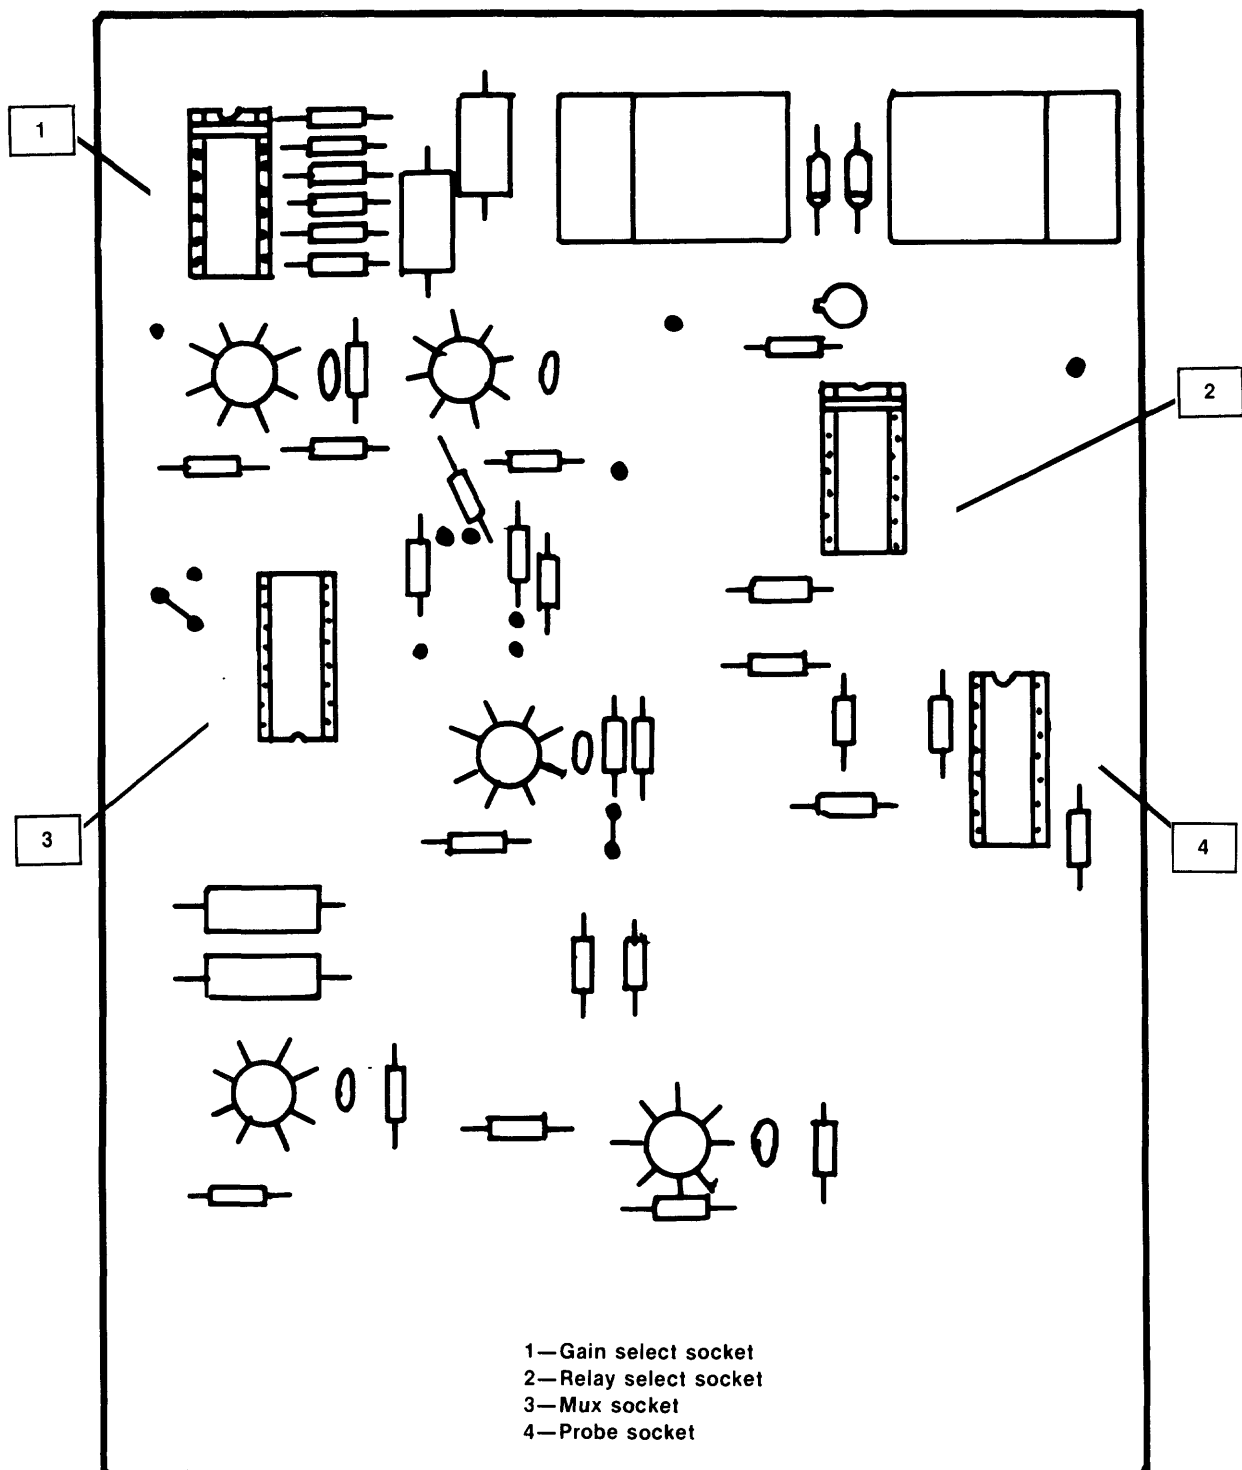

Figure 15.--Voltage signal conditioner.
A voltage SIGNAL CONDITIONER (fig. 15) has been designed by the HIF to allow the Minimonitor to accept voltage and, in some cases, current signals from other instruments. The voltage SIGNAL CONDITIONER has a selectable gain, which is applied to the input signals. Settings of the gain and the SPAN and ZERO pots on the Minimonitor cover determine the voltage levels passed to the data recorder or DCP. In addition, the voltage SIGNAL CONDITIONER has relays available to provide electrical power from the Minimonitor, or other sources, to other instruments. The relays normally are activated when the Minimonitor control/turn-on line is turned on or when the AUTO-MANUAL switch is switched to MANUAL.
- Voltage SIGNAL CONDITIONER (fig. 15) and ribbon cable connector if used on Minimonitor.